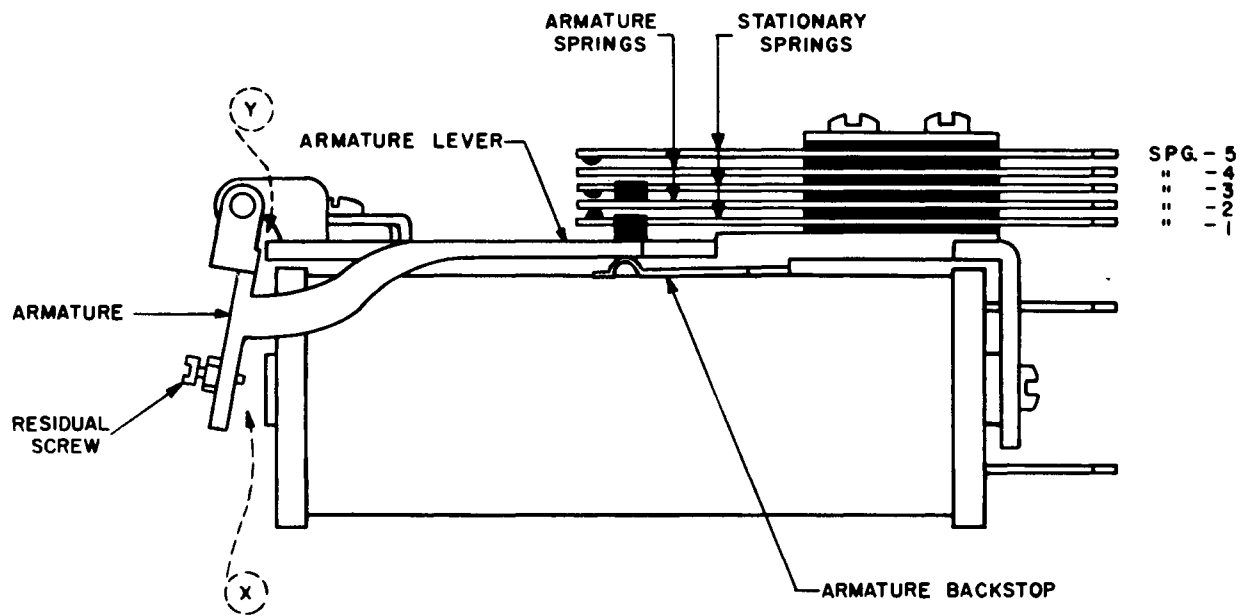
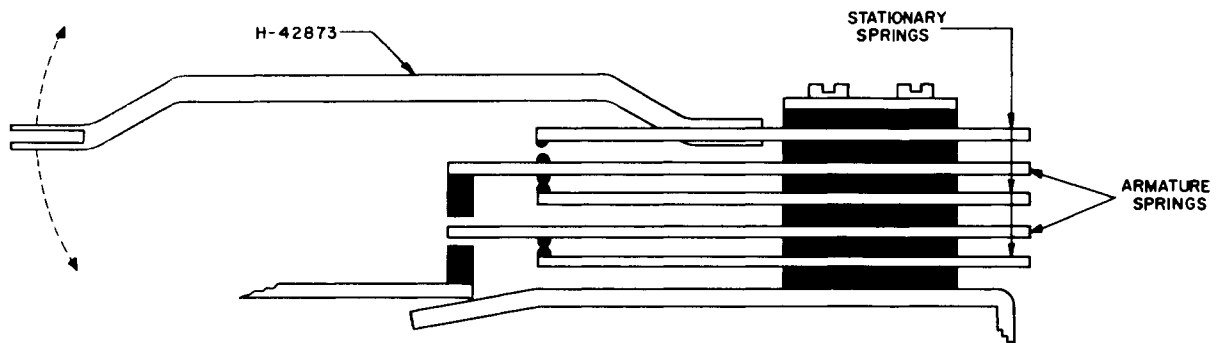
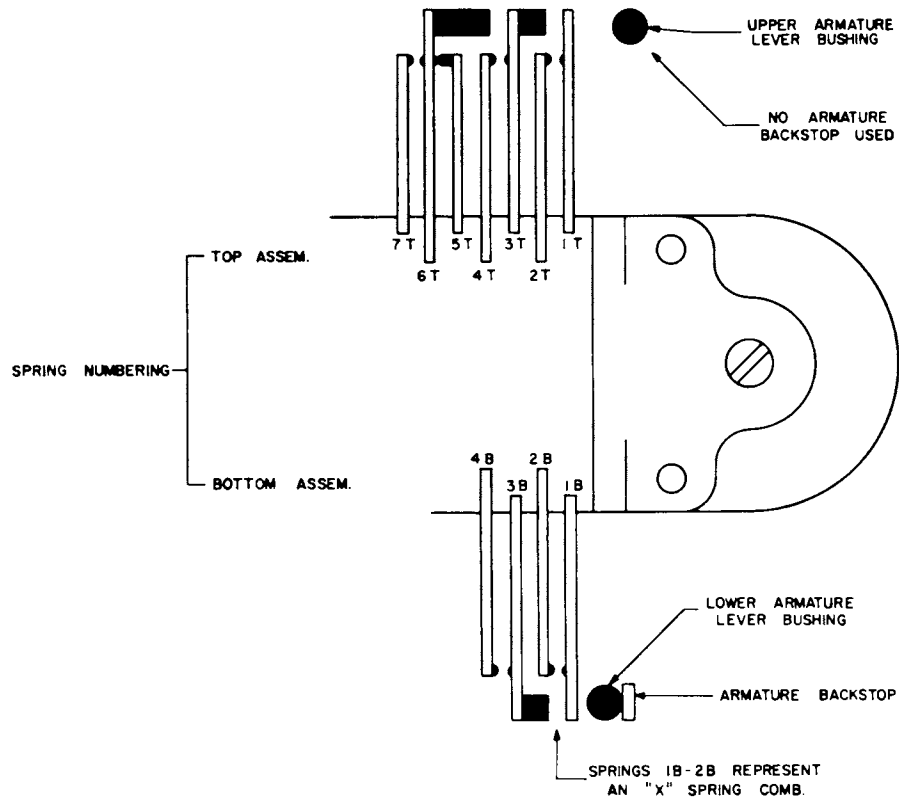

Figure 15. Residual screw adjustment.
Figure 16. Spring adjustment.
Figure 18. Adjustment of "X" contacts.
- b. Correct relay release timing. Armatures and coil cores must be clean to prevent "sticky" relays (see figure 15 at point X). The heel piece air gap must be clean (see figure 15 at point Y). Check the following sections for relay adjustment procedures.
(1) The adjustment of relay springs is known as "gauging." Use enough light for checking and gauging relay springs and contacts. Place a piece of white paper in such a position that the contacts will appear in a sharp outline. A. E. Co. can supply inspection lamp H-880922-1 for this purpose. CAUTION: Adjustments are made on stationary springs only. Never adjust the armature springs because this upsets the relay's operating characteristics. (See figure 15 for stationary and armature spring designation. Armature springs are moved by the armature lever when the relay operates.)
(2) Springs must be bent carefully. Use spring adjusters H-88504 or H-42873; substitute tools may damage the springs. Consult technical bulletin 540 for the proper tools. To change the position of a relay stationary spring, place the adjuster in the position as seen in figures 16 and 17 and carefully bend the spring in or out. See that they make and break with follow and are open when they should be.
(3) Repeat these two operations until the spring is correctly gauged. Using relay adjustment sheets and thickness gauge set H-46795-1, relays may be adjusted. This is the factory method and requires some experience. However, unless a relay requires a major change, the adjustment method first described is satisfactory for the relay maintenance of a small P-A-X.
- c. Adjustment of relay "X" springs. Figure 18 springs 1B-2B represent "X" springs. These must close before any other armature springs move. Adjustments are made on spring 2B. Do not bend armature backstop (figure 15) to gauge "X" springs.
The armature of certain relays extend beyond the edge of the relay heelpiece. These and similar "slug relays" are designed to release a short time after their circuit is opened. This "sluggish" action is necessary and no adjustment should be attempted to overcome it. In time, however, dirt collects on the armature and the coil core to make these relays "sticky." The armature of a "sticky" relay clings to its coil core, after its circuit is opened, for a period of time exceeding even that required for a slow-to-release relay. In addition, the residual screw (see figure 15) of any relay may in time grind itself into a coil core to cause a "sticky" relay. These two conditions combine to upset relay release timing. When a relay is too slow-to-release, proceed as follows:
- a. Clean face of the relay armature and coil core with a piece of cloth arranged over the contact cleaner blade. (See figure 15 at point "X".)
- b. Clean between the armature and heelpiece with a suitable sized thickness gauge. (See figure 15 at point "Y".)
- (1) Check "residual" column on the relay adjustment sheet for correct value.
- (2) Select the thickness gauge, corresponding to this figure, from set H-46795-1. Place it between the armature and the coil core so that the residual screw will pass through the opening when the relay armature is operated.
- (3) Loosen the residual nut. Manually operate the relay armature and turn the residual screw until the gauge is free from bind. Retighten the residual nut. Relays with fixed residuals require only cleaning.
The armature lever (see figure 15) may be adjusted with adjuster H-88502-1 or H-14768. Hold the armature tightly against the coil core with the thumb and bend the lever slightly to the left or right. A relay armature lever may be adjusted under the following conditions:
An air gap (also called the "air line") between the armature and the heelpiece is .004" at point "Y" on figure 15. If this air gap is disturbed, loosen the armature-yoke mounting screw and place a .004" thickness gauge between the armature and the heelpiece. Press the three together and tighten the mounting screw. Remove and test for armature operation. Foreign material in the air gap causes an armature to bind. Clean with a thickness gauge.
Relay margining is the proper tensioning of the relay's armature springs (see figure 15). Margining is not discussed here because it is seldom necessary in small P-A-X maintenance. Relays are properly margined at the factory by skilled personnel.